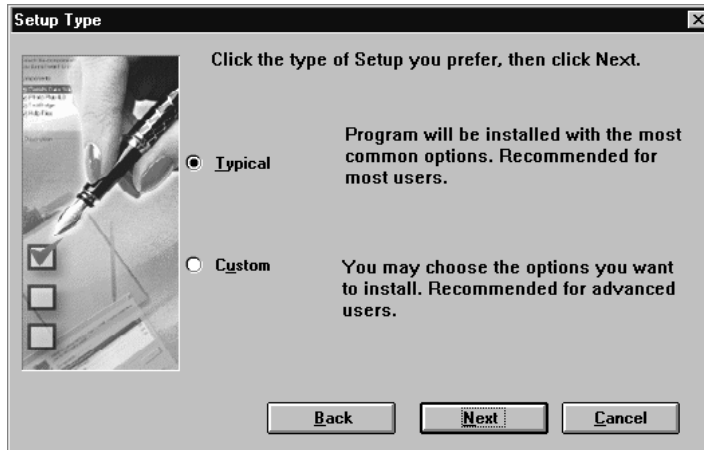

Figure 19: Determining the type of setup
- Click on 'Next' to accept the default directory and to continue with the installation. Figure 19 will pop up.